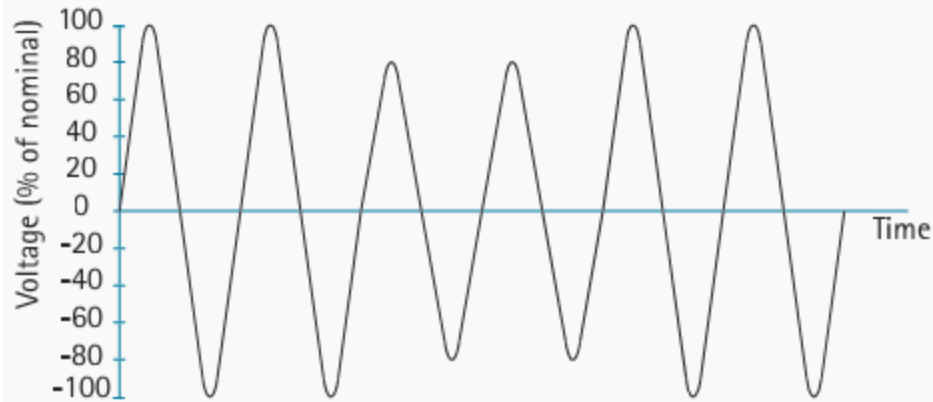

Figure 3 - Recording of a voltage dip
**Figure 3** shows an actual voltage dip, as captured by a Power Quality recorder.